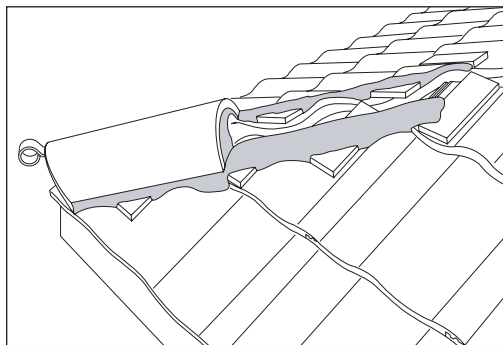

Fig 52 – First hip tile bedded and supported with tile slips
- Edge and solid bed hip tiles continuing along length of hip (Fig 52).